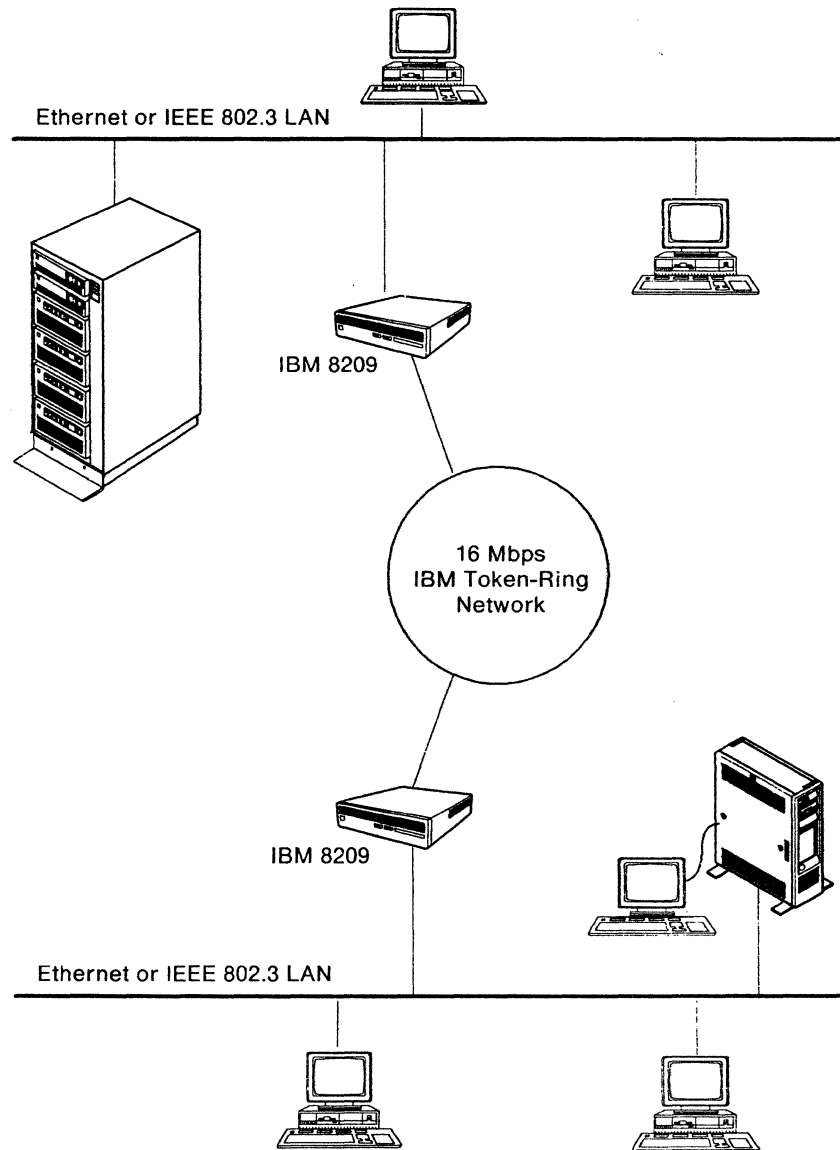

Figure 1-4. Using IBM 8209s in a LAN
- Stations that are separated from the IBM 8209 by one or more bridged LANs, for networks containing just IBM 8209s (see Figure 1-4), and for networks containing IBM 8209s and other types of bridges (see Figure B-1 on page B-6).